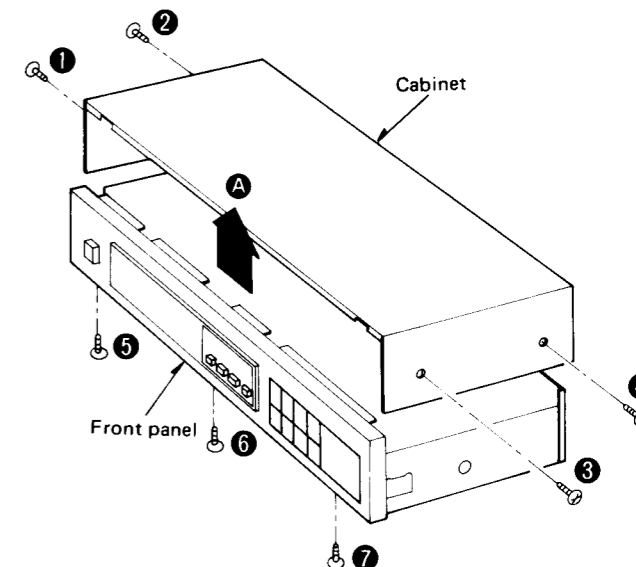
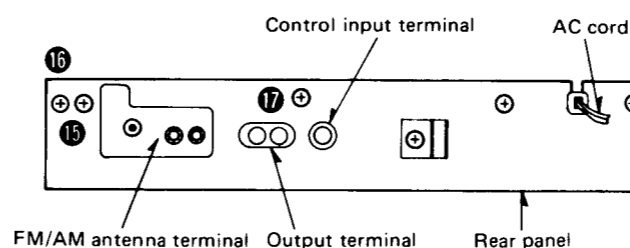
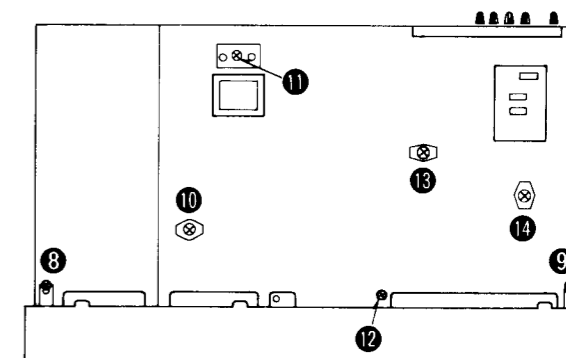

Fig. 1
Fig. 3
Fig. 2
1. Remove the 4 setscrews (1 ~ 4 in Fig. 1) of the cabinet.
2. Move the cabinet in the direction of the arrow A in Fig. 1.
3. Remove the 5 setscrews (5 ~ 7 in Fig. 1 and 8, 9 in Fig. 2) of the front panel and the 8 setscrews (10 ~ 14 in Fig. 2 and 15 ~ 18 in Fig. 3) of the printed circuit board or rear panel.